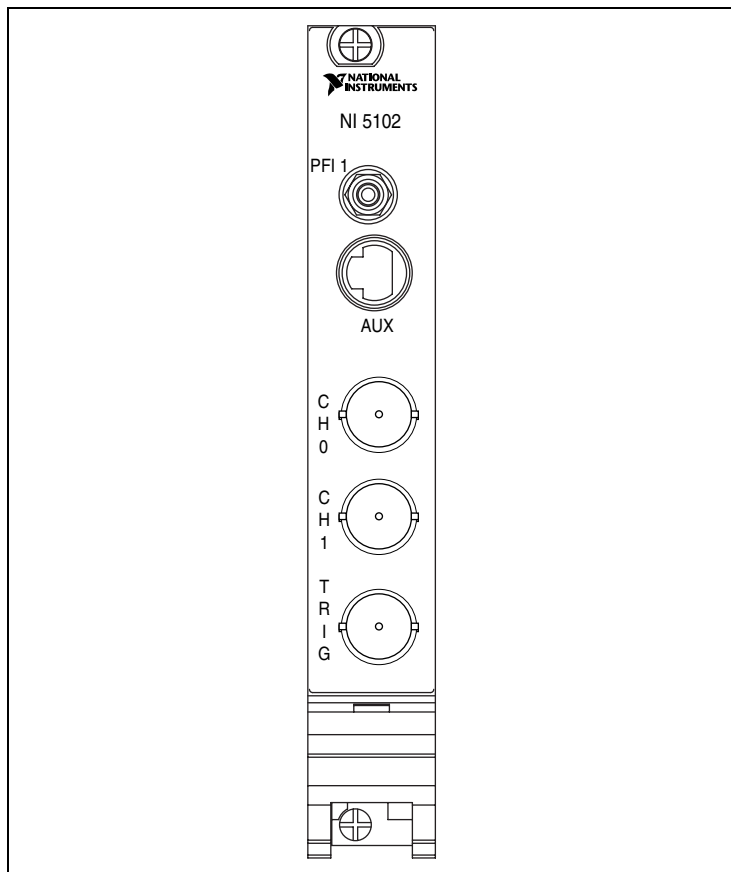
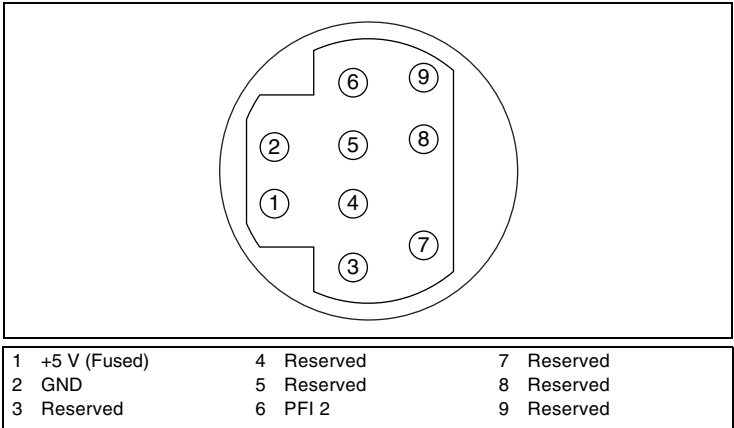
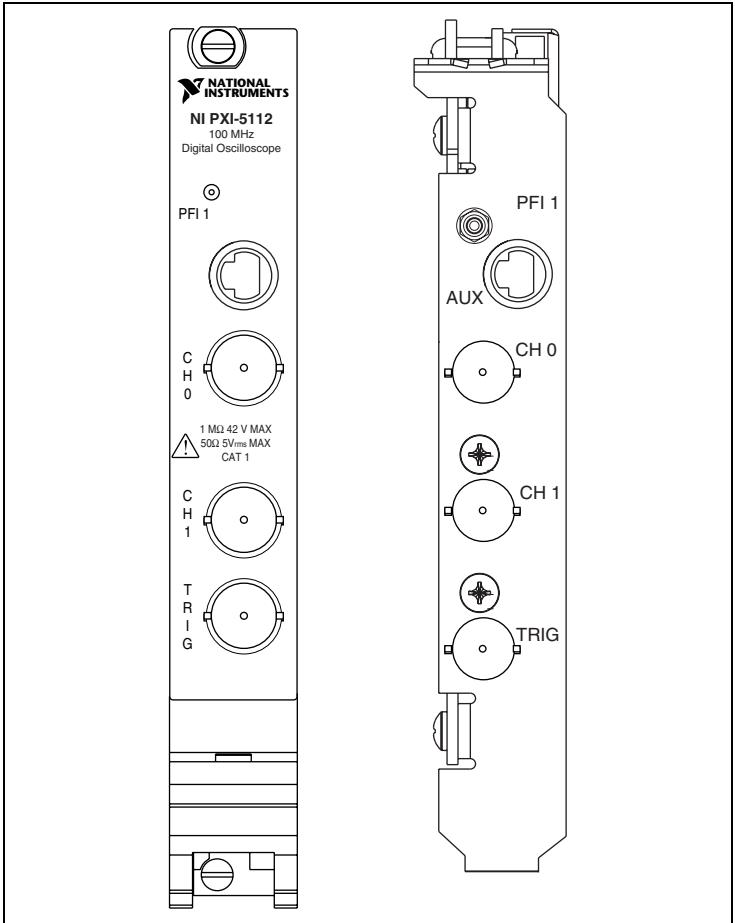
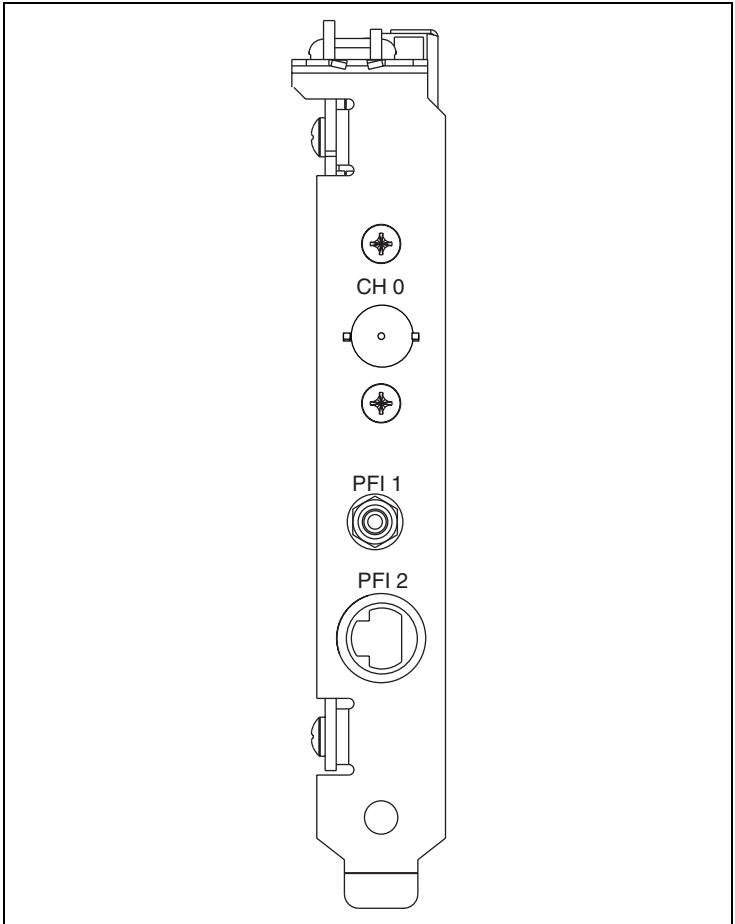

Figure 8. NI PXI-5102 Front Panel
Figure 9. 9-Pin DIN Connector for NI PXI-5102, NI PXI/PCI-5112, and NI PCI-5911
Figure 13. NI PXI/PCI-5112 Front Panels
Figure 18. NI 5911 Front Panel
- ◆ **NI PXI-5102**—Figure 8 shows the NI PXI-5102 front panel. Refer to Figure 9 for the AUX connector pinout information.
Figure 9 shows the pin assignments for the 9-pin DIN connector on the NI PXI-5102.
The NI 5112 is available for both PXI and PCI buses. Figure 13 shows the NI PXI-5112 and the NI PCI-5112 front panels. Refer to Figure 9 for the AUX connector pinout information.
Figure 18 shows the NI 5911 front panel. Refer to Figure 9 for the PFI 2 (AUX) connector pinout information.